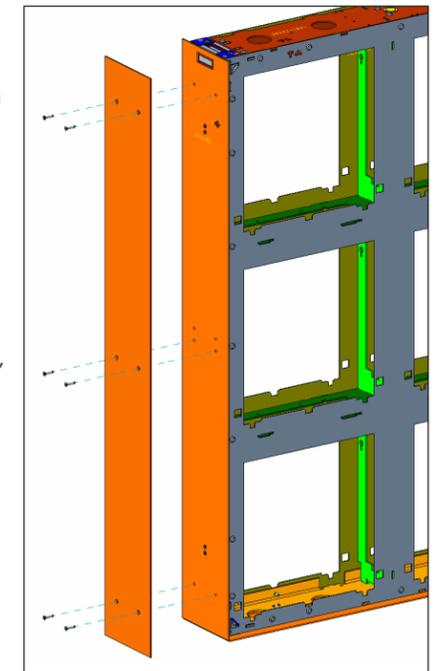

Figure 8: Attach Border
2. Attach the border to the display with the supplied Phillips flathead screws (Daktronics part number HC-1302) through the shim and spacer assembly, starting with the center screws. Refer to **Figure 8**. Do not overtighten the screws, as they will strip out in the aluminum.